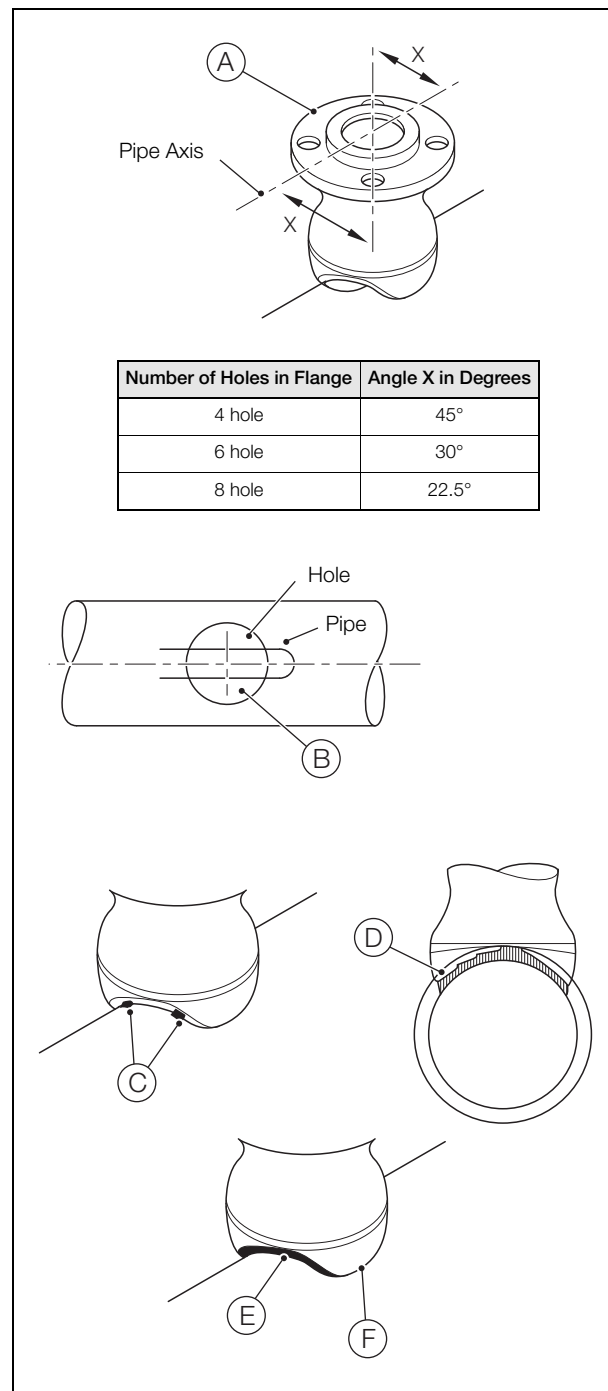

Fig. 2.17 Flanged Pipe Fitting (Stand-off) Installation
3. Referring to Fig. 2.17:
- a. Place the flanged pipe fitting (stand-off) (A) centrally over the drilled hole (Models 311, 411, 511, 412, 512, H712 and H812) or mark (Models H611, H711 and H811) and align it correctly to the axis of the pipe (angle X) according to the number of bolt holes in the flange. Ensure it is perpendicular to the pipe axis and square to the pipe plane.
- b. Use suitable spacers (B) to raise the flanged pipe fitting (stand-off) off the pipe to establish the necessary gap for full-penetration welding.
- c. Tack-weld at four points (C) midway between the crotch and the skirt sections of the fitting.